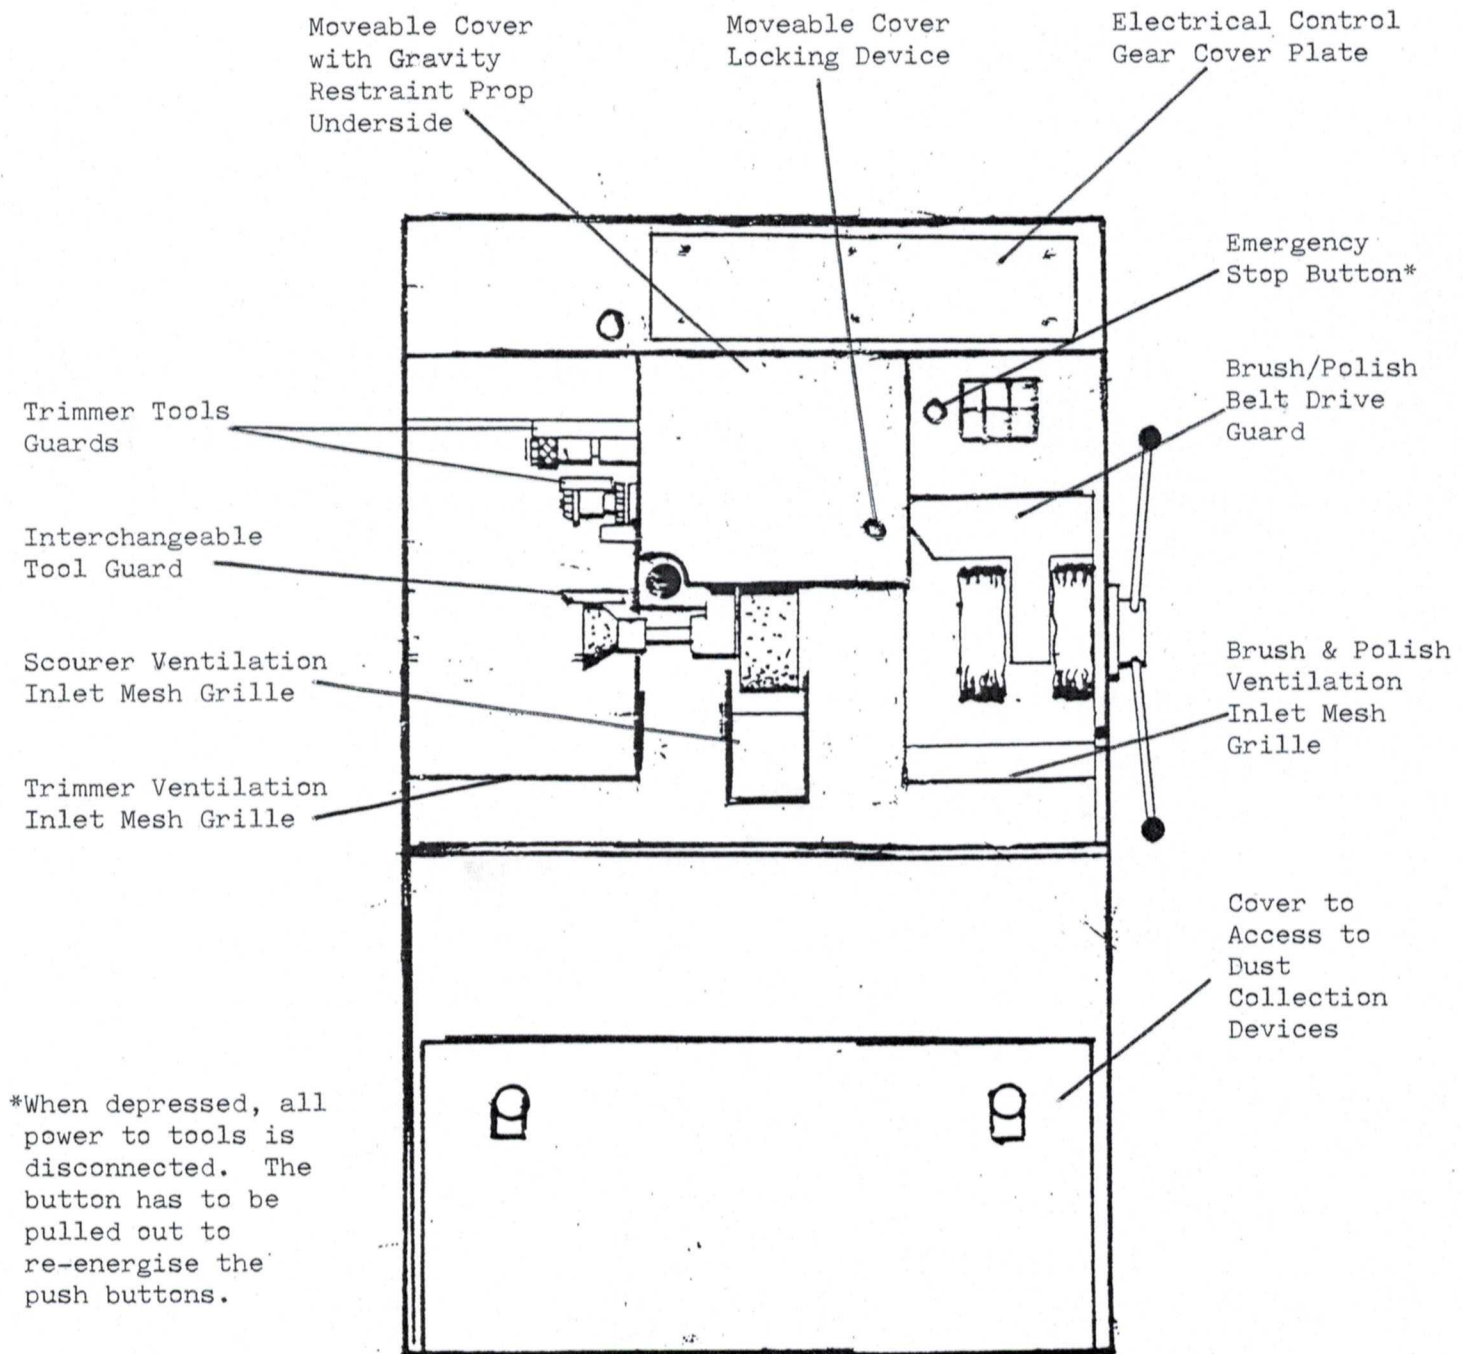

Fig. 2
5.3 The machine is fitted with safety devices and guards as shown in fig. 2.